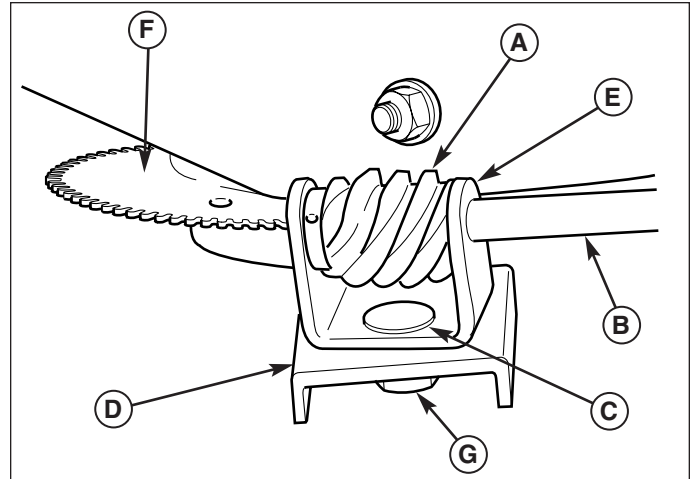

Figure 23. Discharge Control
If the discharge chute is difficult to operate, first lubricate the pinion gear (A, Figure 23) and ring gear (F). If it is still difficult to operate, adjust as follows:
1. Loosen the nut (G, Figure 23) which holds the pinion gear bracket in the slotted hole.